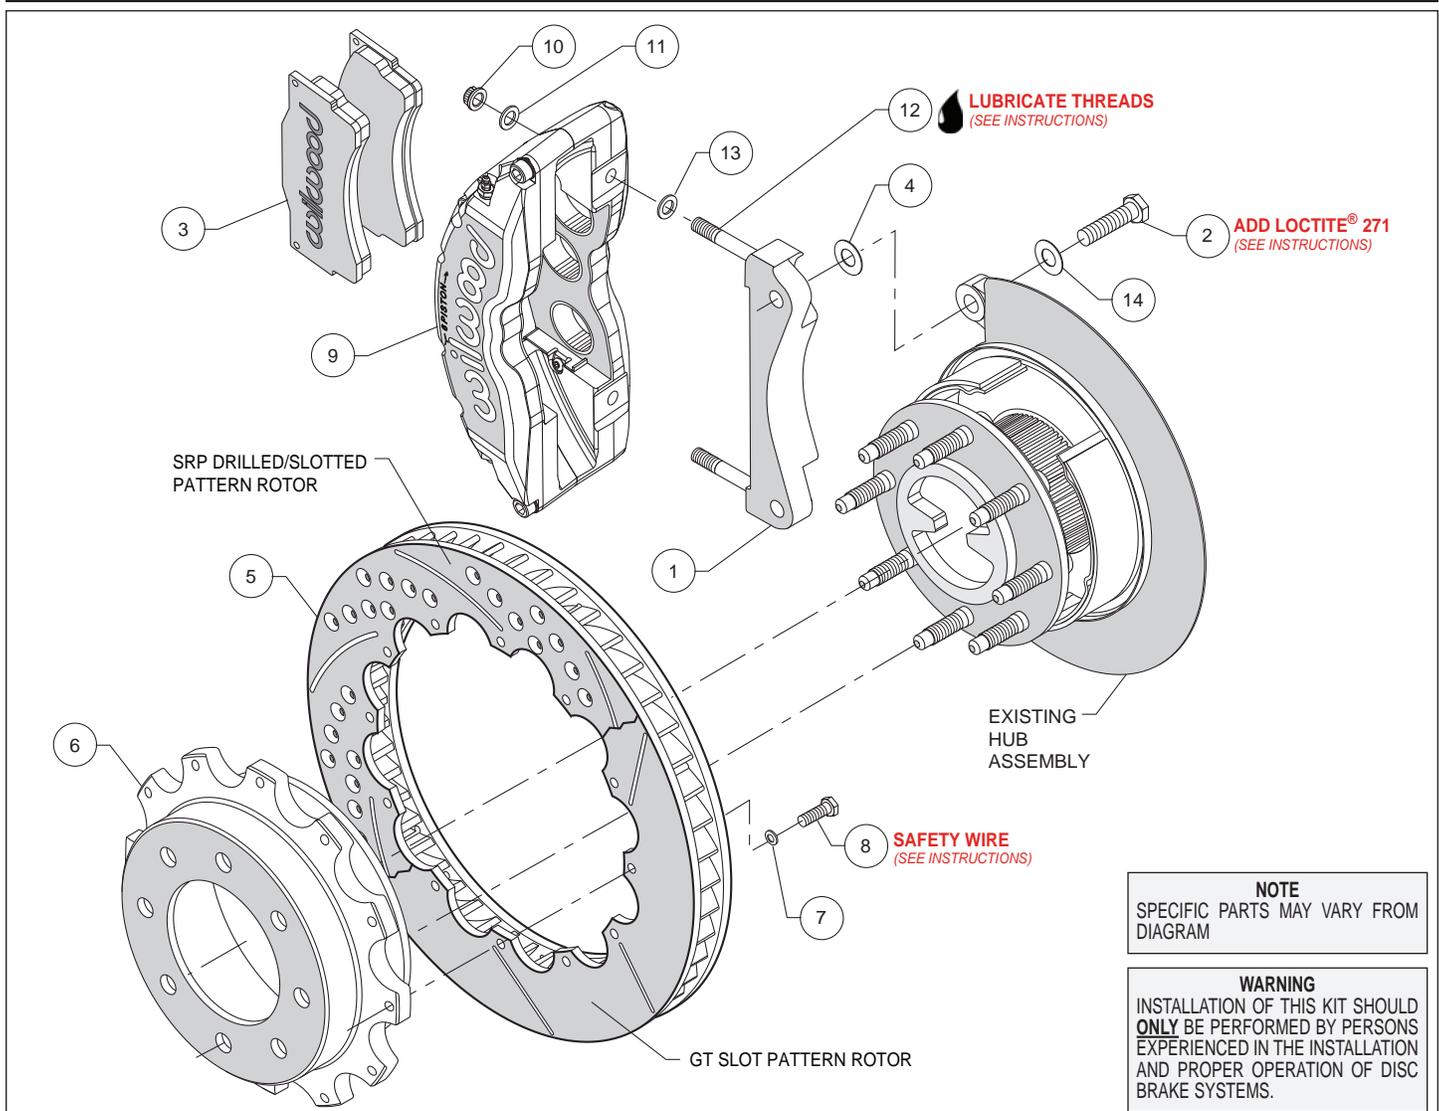
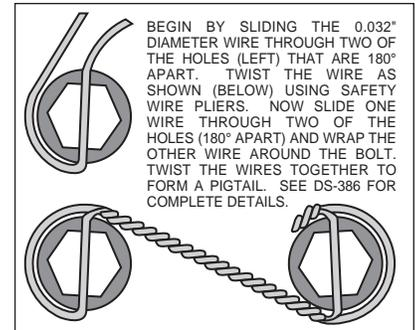

Figure 1. Typical Installation Configuration
Figure 3. Safety Wire Diagram
- The caliper mount bracket assembly (1) should be installed first with clean, dry threads on the mounting bolts (2). Install the bracket by sliding bolt (2) through washer (14) from the rear side of the hub through the OEM caliper mounting bracket ears, then through an additional shim washer (4) and into the bracket (1). The bracket must tighten squarely against the outboard side of the caliper mount bosses on the upright. Inspect for interference from casting irregularities, machining ridges, burrs, etc. Use one shim (4) between the bracket and upright during initial trial fitting. Later, after the caliper, pad, and rotor alignment have been checked, and any necessary shims have been put in place, the mounting bolt threads (2) should be coated with red *Loctite*® 271 and torqued to 95 ft-lbs.
- Attach the rotor (5) to the hat (6) using bolts (8) and washers (7) as shown in Figure 1. Using an alternating sequence torque bolts to 25 ft-lbs. Safety wire the bolts using standard 0.032 inch diameter stainless steel safety wire as shown in Figure 3. Please refer to Wilwood's data sheet DS-386 (available at www.wilwood.com/Pdf/DataSheets/ds386.pdf) for complete safety wire installation instructions.